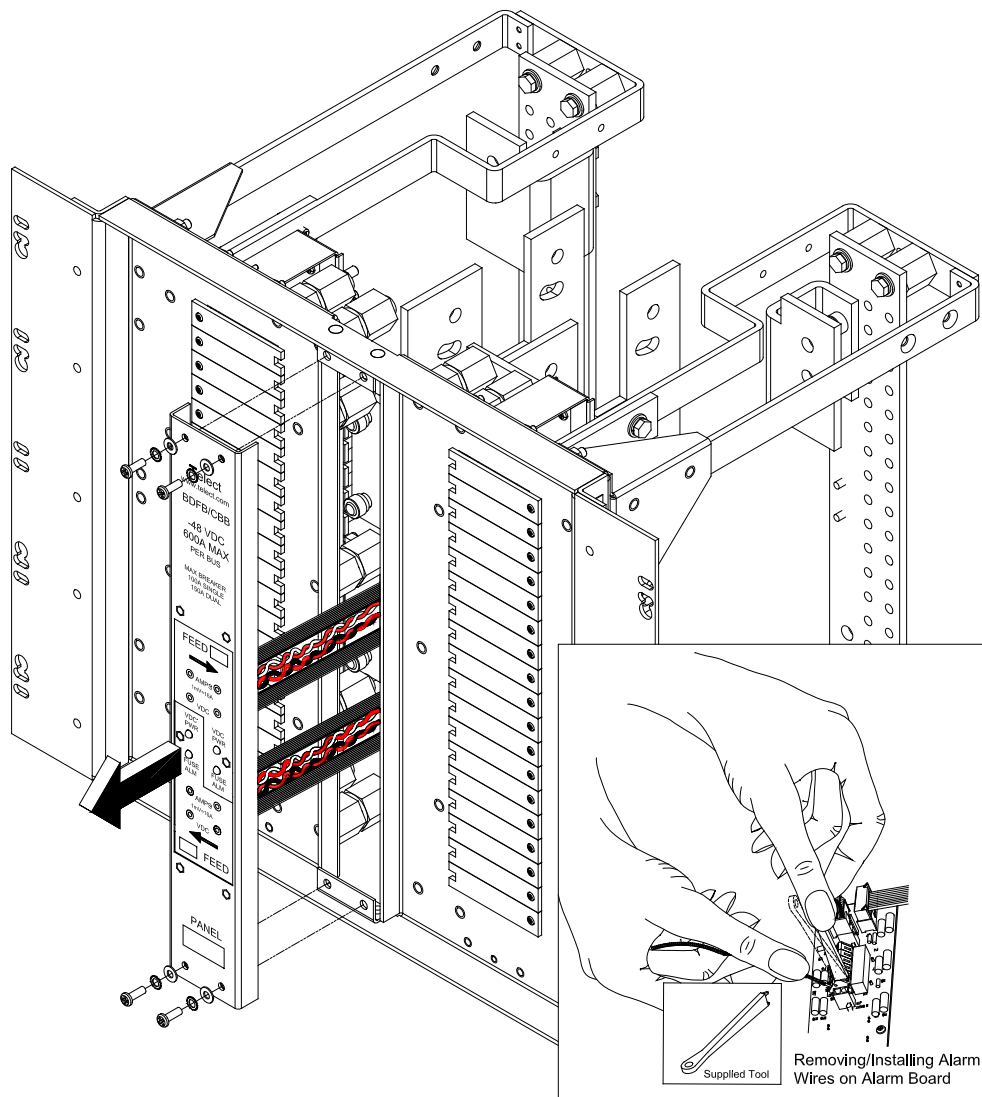

Figure 2 - Removing Standard Panel (With Shunt Previously Installed)
1. Detach the standard panel (four sets of screws and washers) from the BDFB / BDCBB. (See Figure 2.) Discard screws and washers.
2. Disconnect the six connectors (four CB ribbon cables and two twisted pairs of power cables) from the board on the rear of the standard panel. If applicable, also disconnect the optional alarm wires, as shown in the inset in Figure 2.